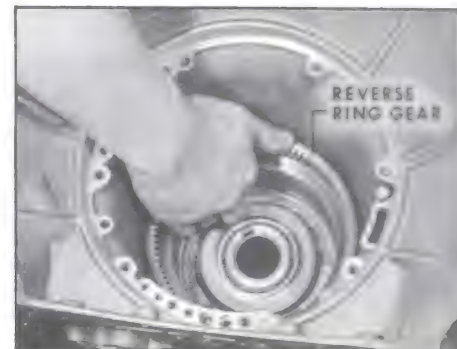

Figure 5-146
2. Remove reverse ring gear from case. See Figure 5-146.